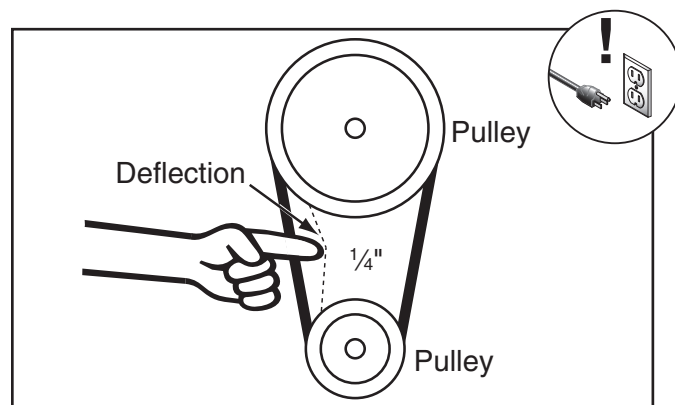

Figure 71. Checking V-belt tension.
4. To tension the V-belt, slide the motor to the left until the V-belt is snug, then tighten the bolts. The amount of V-belt deflection between the pulleys should be approximately $\frac{1}{4}$ " when moderate pressure is applied, as shown in **Figure 71**.